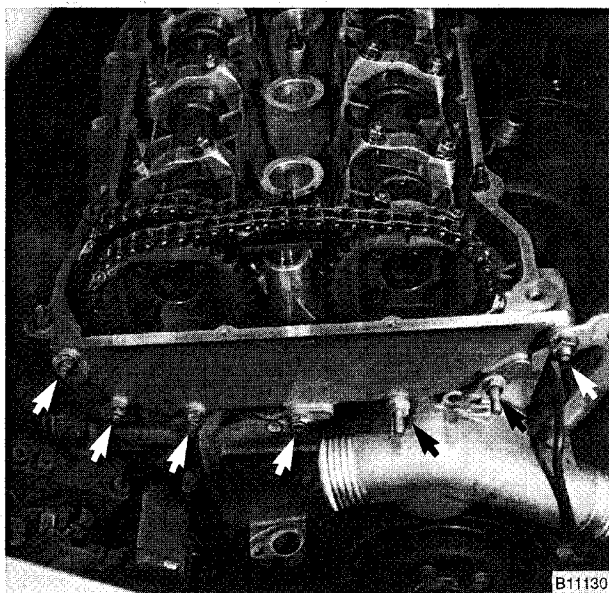

Fig. 19. Upper timing chain cover mounting nuts (**arrows**) on pre-VANOS engines.
11. On 1992 engines: Remove upper timing chain cover from front of cylinder head. See Fig. 19.